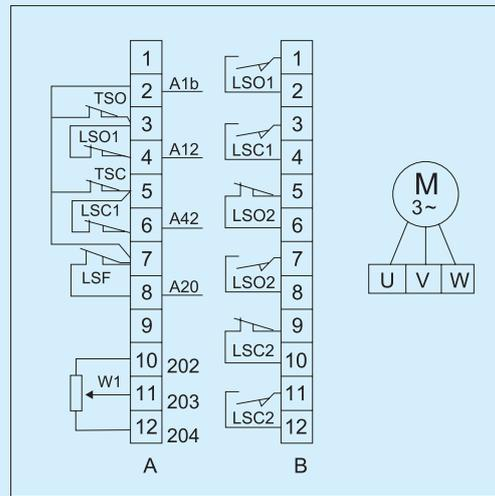

图12 / Figure 12
5.9.1 户外型电动执行机构的接线图见图12
Refer to the Figure 12 for the connection diagram of outdoor electric actuator